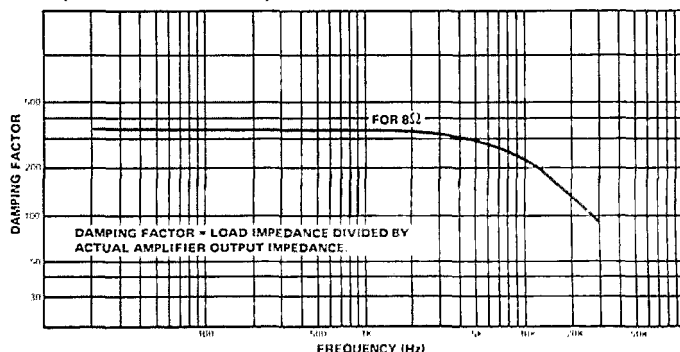

Fig. 8 - Damping Factor vs Frequency at  $8\Omega$  Load Impedance
**Damping Factor:** (@ 8 ohms / (Refer to Figure 8.)